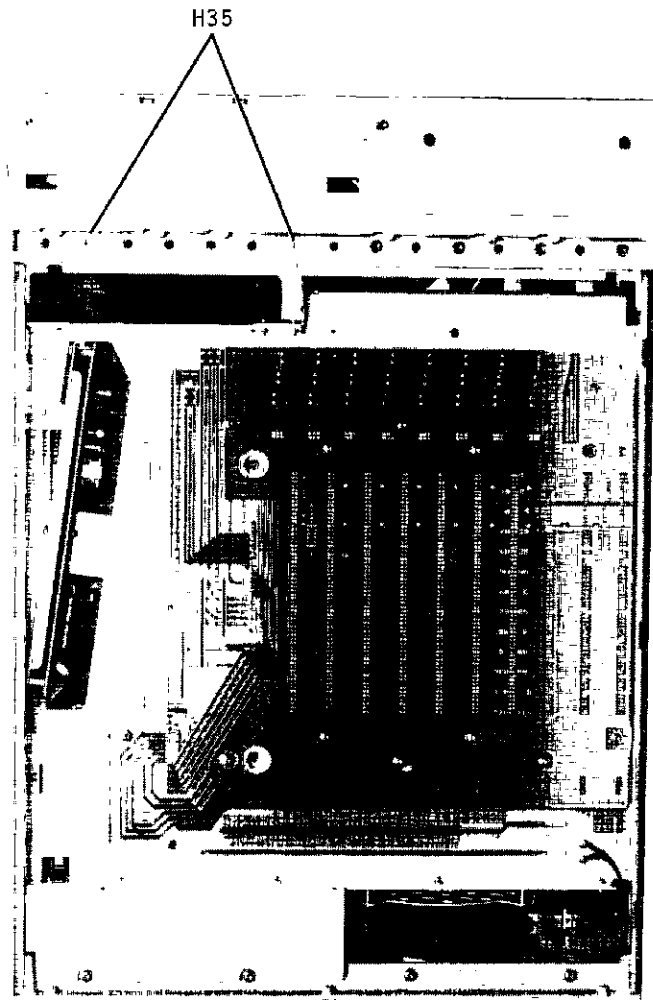

Figure 6A-7. CRT Bezel and Softkey Keyboard Removal.
4. Remove two screws from bottom of (H37) instrument. These screws are removed through holes provided in bottom of instrument. Refer to figure 6A-8.